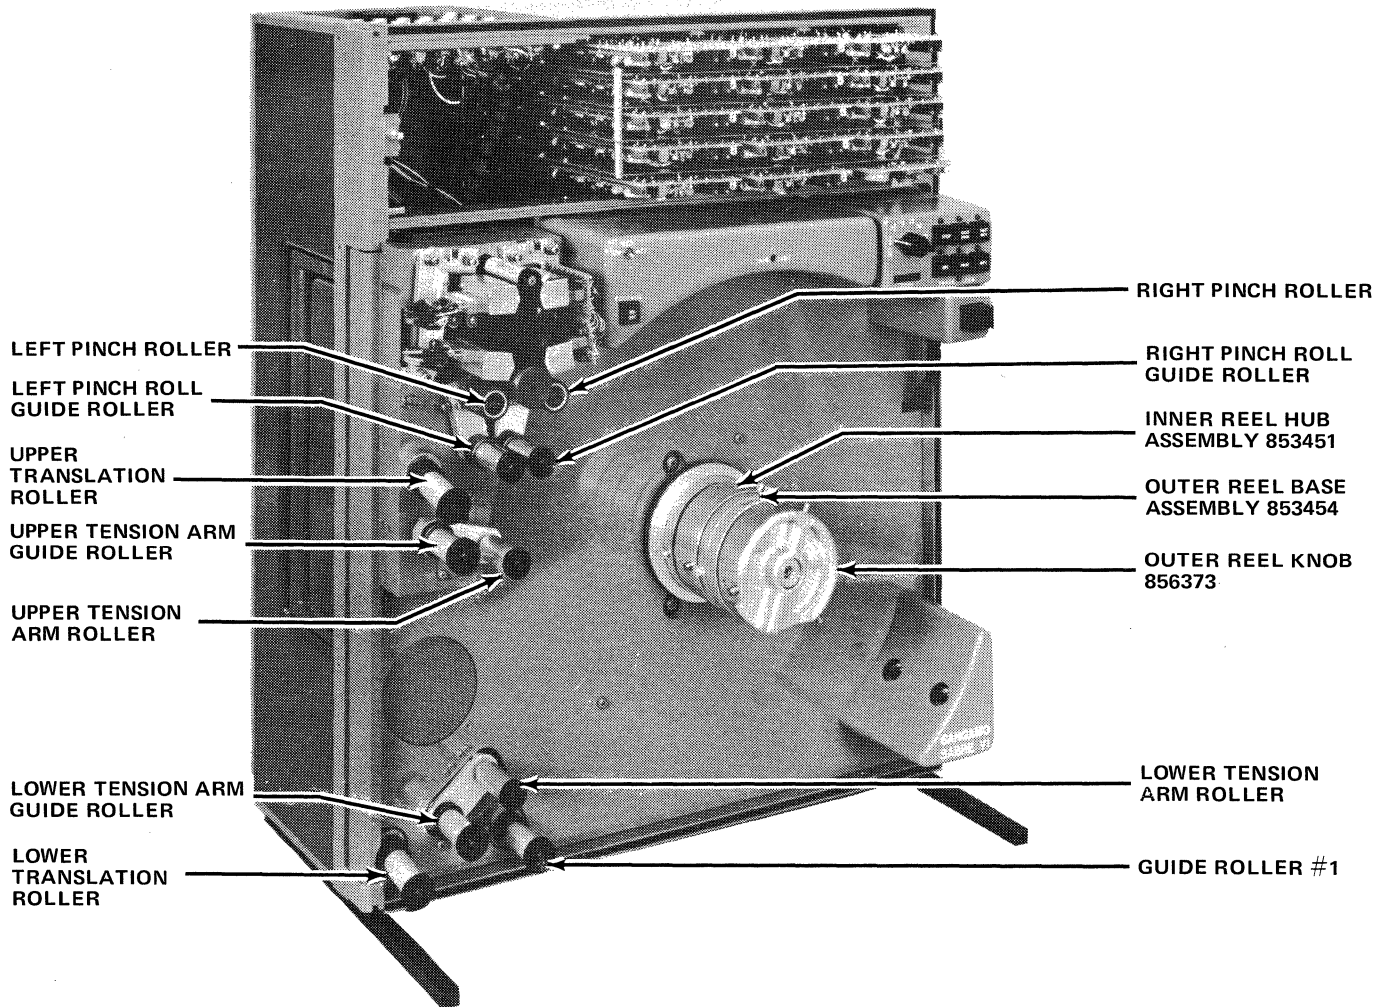
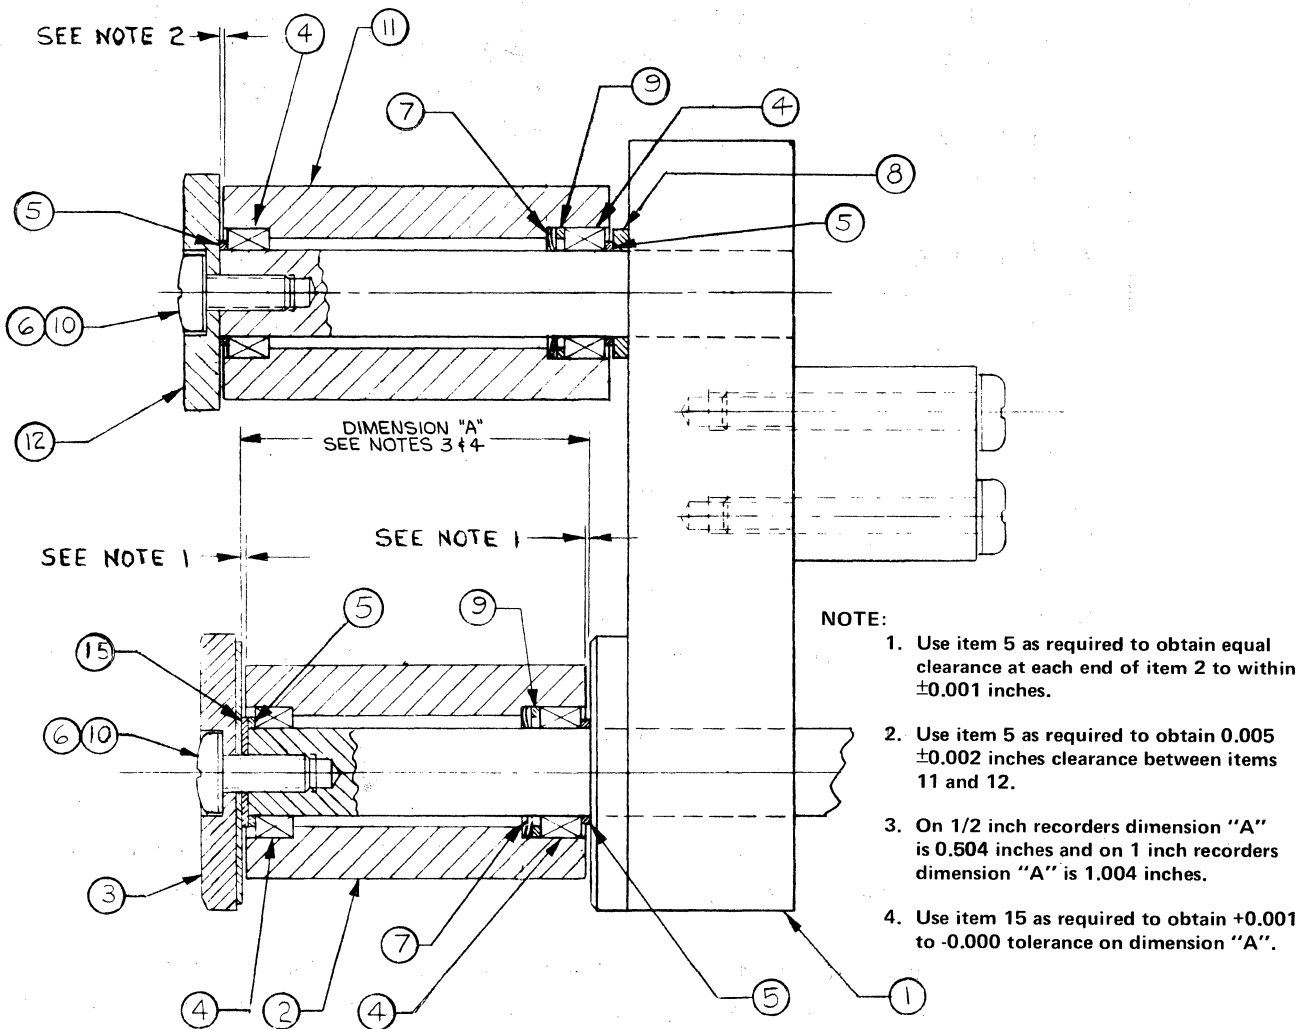

Figure 7-3. Transport Panel, Roller Location
Figure 7-5. Tape Tension Arm Rollers
a. TRANSLATION ROLLERS AND GUIDE ROLLER #1 - Refer to Figures 7-3 and 7-4
- Step 1. Remove roller cap retaining screw (6) and lockwasher (10).
- Step 2. Carefully lift off roller cap (3) and remove shim washers (8) and (5). DO NOT misplace these shims.
- Step 3. Withdraw the assembly from the shaft, leaving all shim washers (5) at the base of the shaft.
- Step 4. Remove front and rear bearings (4), bearing spacer (9), and spring washer (7) from barrel roller (2). Discard the defective roller and/or bearings.
- Step 5. Replace the front and rear bearing in the roller. Make certain that spring washer (7) and bearing spacer (9) are placed in the roller before the rear bearing is inserted.
b. **TAPE TENSION ARM, GUIDE ROLLERS - Refer to Figures 7-3 and 7-5**
- Step 2. Carefully lift off roller cap (3) and remove shim washers (15) and (5). DO NOT misplace these shims.
- Step 5. Replace the front and rear bearings in the roller. Make certain that spring washer (7) and bearing spacer (9) are placed in the roller before the rear bearing is inserted.
- Step 7. Place shim washer(s) (5) over the shaft on top of the front bearing.
- Step 8. Lay shim washer(s) (15) on top of the assembly and install the roller cap.
- Step 9. Tighten the retaining screw and check that the roller turns freely on the bearings. The clearance at the front and rear of the roller and dimension "A" should be within the tolerances called out on Figure 7-5. If necessary, disassemble the roller and add or remove shims (5) and (15) to achieve the correct results.
c. TAPE TENSION ARM, ROLLERS. - Refer to Figures 7-3 and 7-5.
- Step 2. Carefully lift off roller cap (12) and remove all shim washers (5). DO NOT misplace these shims.
- Step 3. Withdraw the assembly from the shaft, leaving flat washer (8) and all shim washers (5) at the base of the shaft.
- Step 4. Remove front and rear bearings (4), bearing spacer (9) and spring washer (7) from barrel roller (11). Discard the defective roller and/or bearings.
- Step 7. Place shim washer(s) (5) over the shaft on top of the front bearing and install the roller cap.
- Step 8. Tighten the roller cap retaining screw and check that the roller turns freely on the bearings. The clearance between the roller cap and the front of the roller should be within the tolerance called out in Figure 7-5. If necessary, remove the roller cap and add or remove shim washer (5) to obtain the correct results.
d. PINCH ROLL ARM, GUIDE ROLLER - Refer to Figures 7-3 and 7-6
- Step 1. Remove roller cap retaining screw (10) and lockwasher (11).
- Step 2. Carefully lift off roller cap (9) and remove shim washers (3) and (8). DO NOT misplace these shims.
- Step 3. Withdraw the assembly from the shaft, leaving all shim washers (8) at the base of the shaft.
- Step 4. Remove front and rear bearings (4), bearing spacer (7), and spring washer (6) from barrel roller (5). Discard the defective roller and/or bearings.
e. PINCH ROLLER - Refer to Figures 7-3 and 7-6
- Step 1. Remove roller cap retaining screw (16) and lock washer (11).
- Step 3. Remove retaining ring (14) from the inside of pinch roller (12) and remove bearing (13). Discard the defective pinch roller and/or bearing.